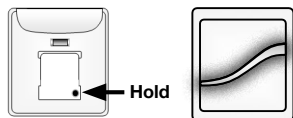

Fig. 2
- B. Press and hold the program button on the secondary remote control until the LED light flash green (about 3 seconds), then release the button. (Fig. 2.) Both the primary and secondary remote LEDs will flash green, then turn off confirming inclusion.